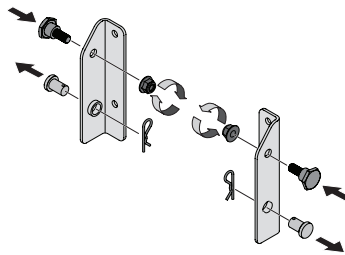

Figure 1
1. If not already installed by the factory, install a shoulder bolt from the 700 Series Mount Kit (689-00086A) hardware pack on each bracket, securing them with flange lock nuts also included in the hardware pack. Refer to Figure 1.
2. If already installed in the brackets, remove the clevis pins and cotter pins, retain for later instructions. Refer to Figure 1.